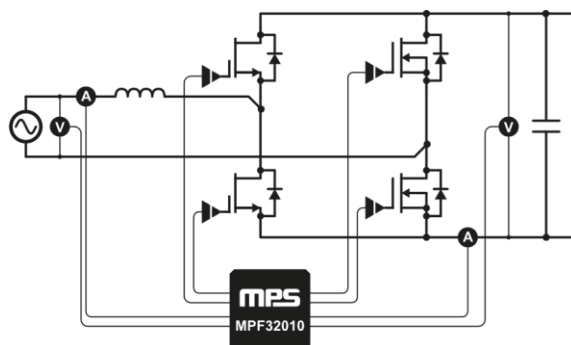

Figure 2: TP Simplified Circuit
Figure 2 shows a simplified circuit of the totem pole (TP).